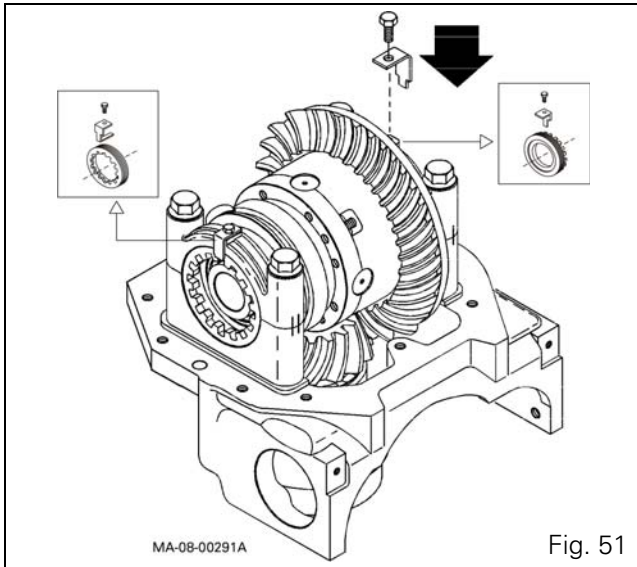

Fig. 51
55. When the shimming procedure is complete, fit the locknuts with their screws and tighten to the required torque (see section 8A01 § A) using a torque wrench (Fig. 51).